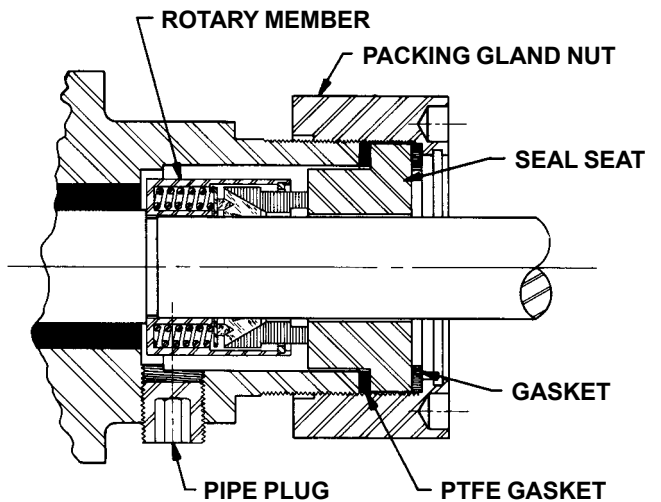

FIGURE 5
7. **REMAINING DISASSEMBLY PROCEDURE** for the Series 4724 mechanical seal pump. (Refer to Fig. 5). Remove the 1/8" socketed head pipe plug on the casing and loosen the two Allen head setscrews on the mechanical seal.
REASSEMBLY OF SERIES 4724 (Refer to Fig. 5).